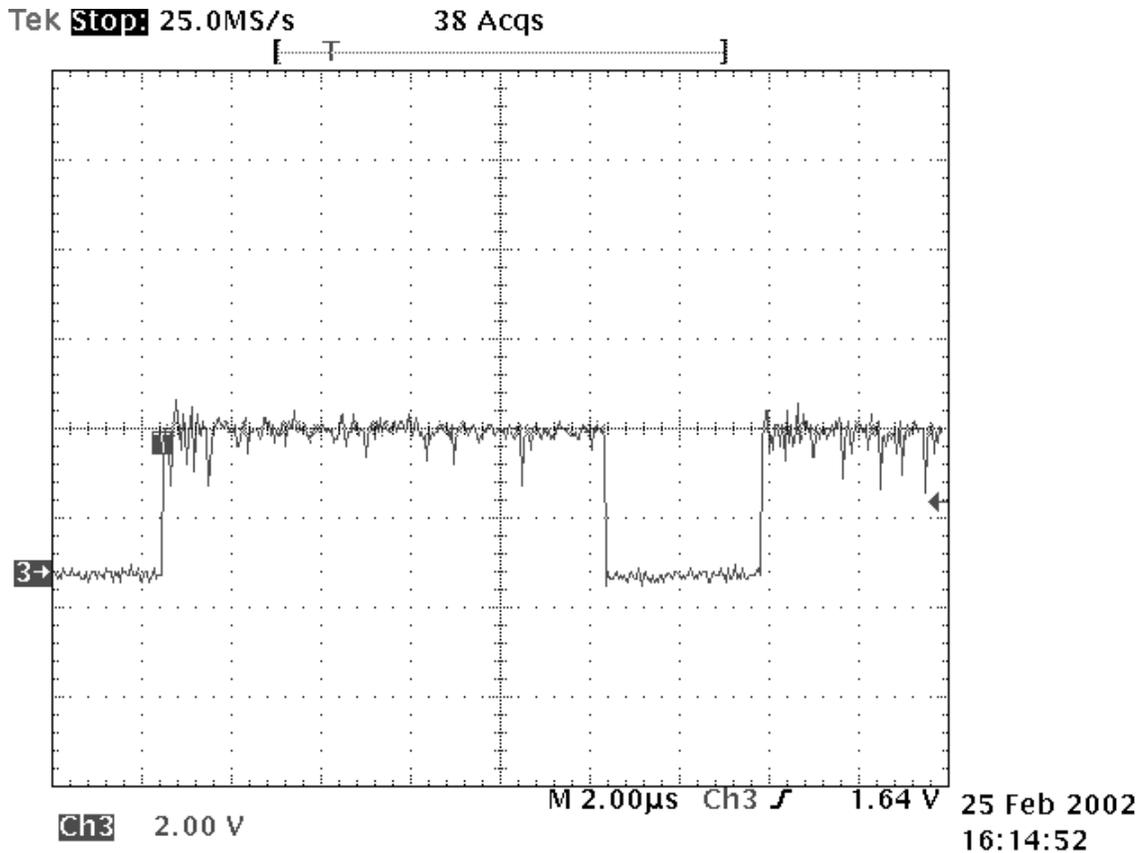

Figure 1. Example DE waveform TFP401 (2Pix/cik, STAG/=H, ST=H)
When the TFP101/201/401(A) receiver is operating in 2Pixel/Clock mode (PIXS=H), with non-staggered outputs (STAG/=H) and high output drive strength (ST=H) it is possible that when all 48 data outputs are switching simultaneously, some “dipping” can occur on other output signals such as DE, HSYNC or VSYNC. See Figure 1.